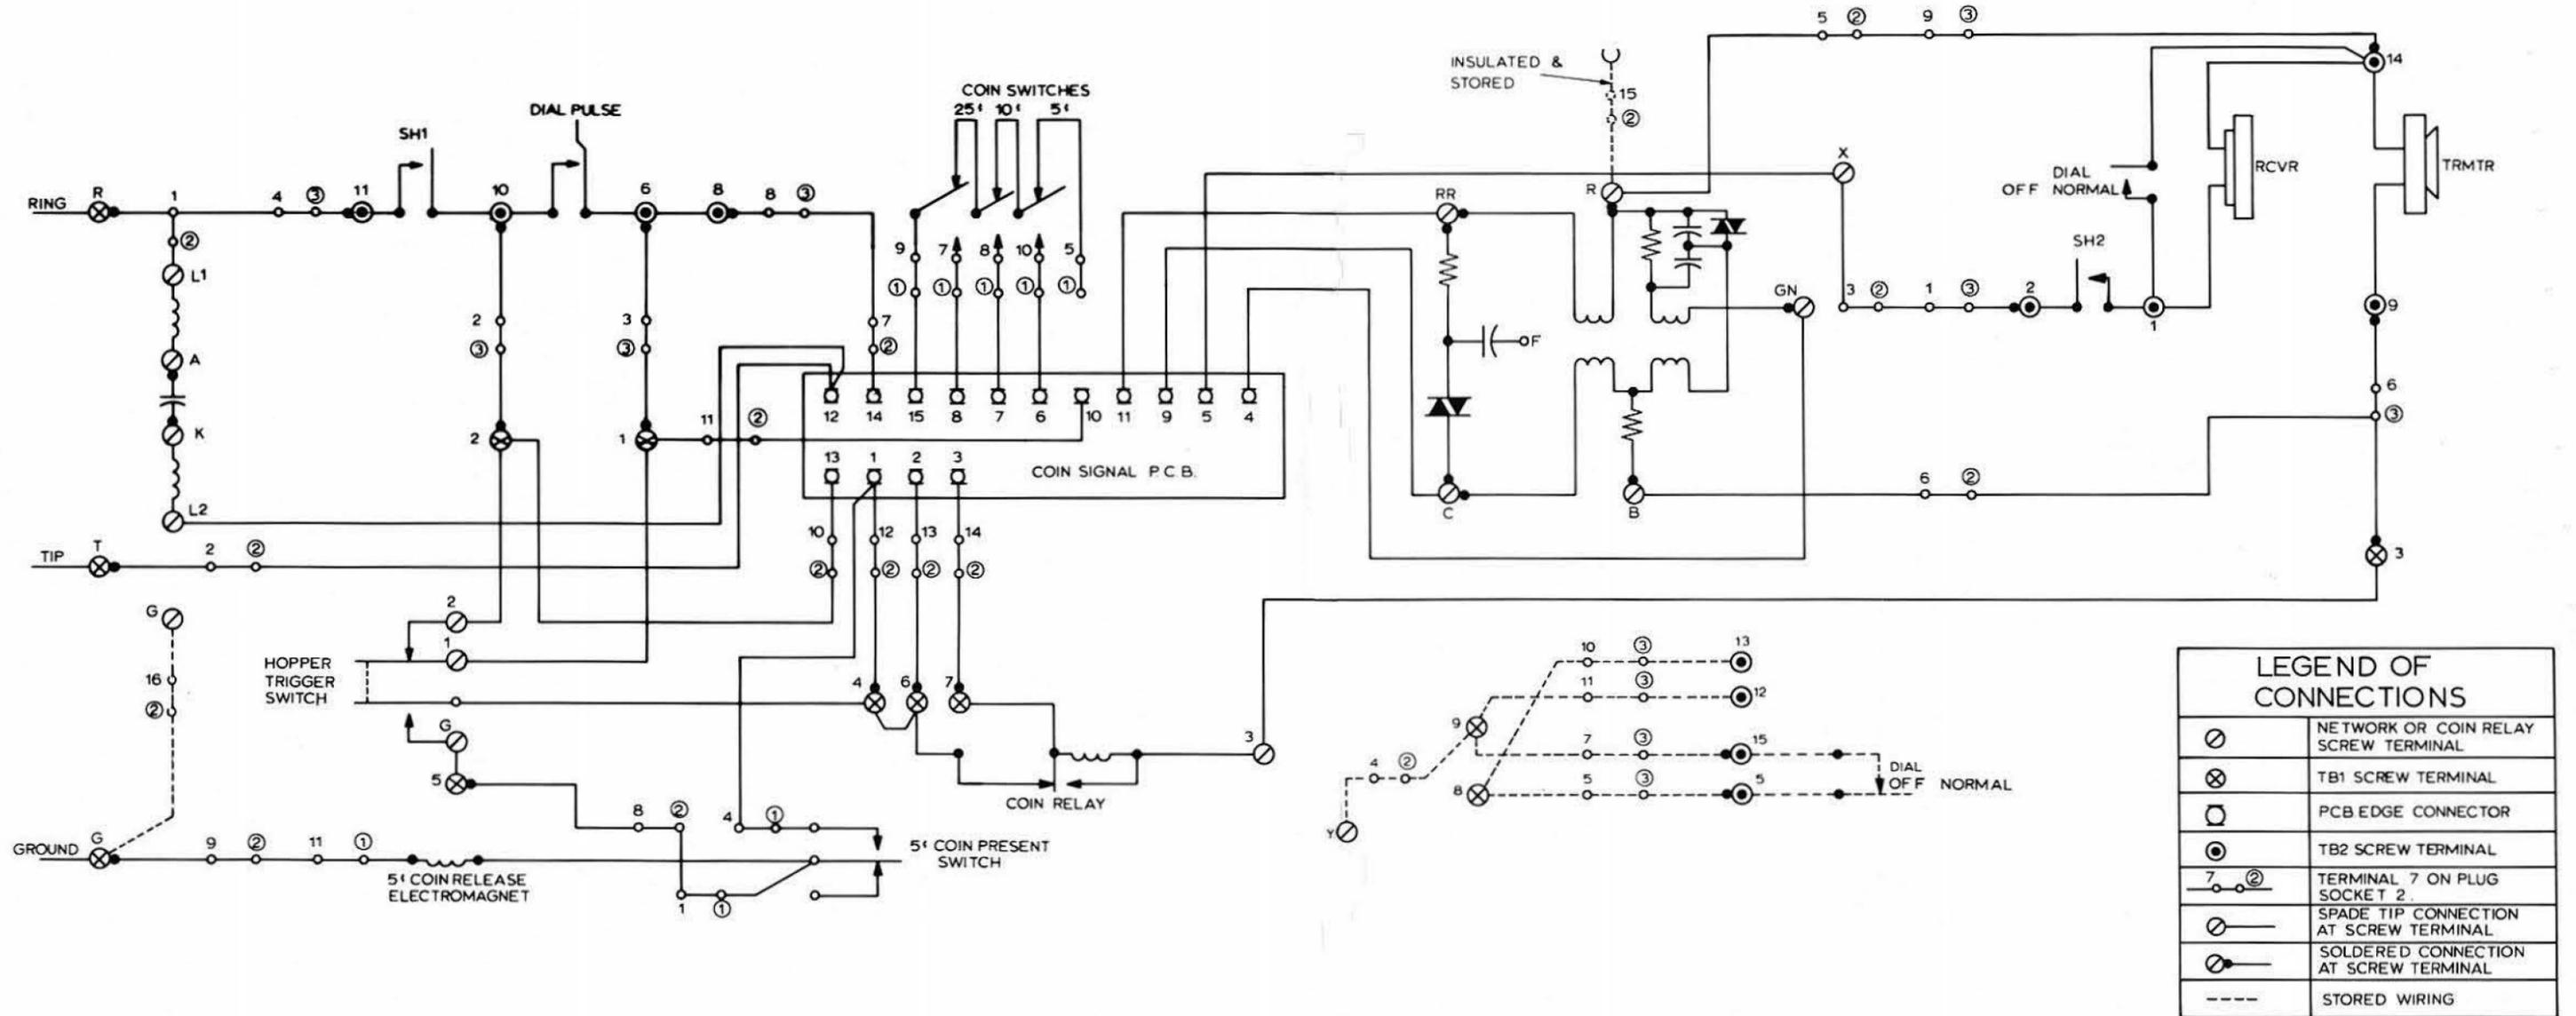

Fig. 2 — Schematic Diagram of QSD300A Coin Telephone Set
2.06 The schematic diagrams for the QSD300A and QSD2300A coin telephone sets are shown in Fig. 2 and 3.